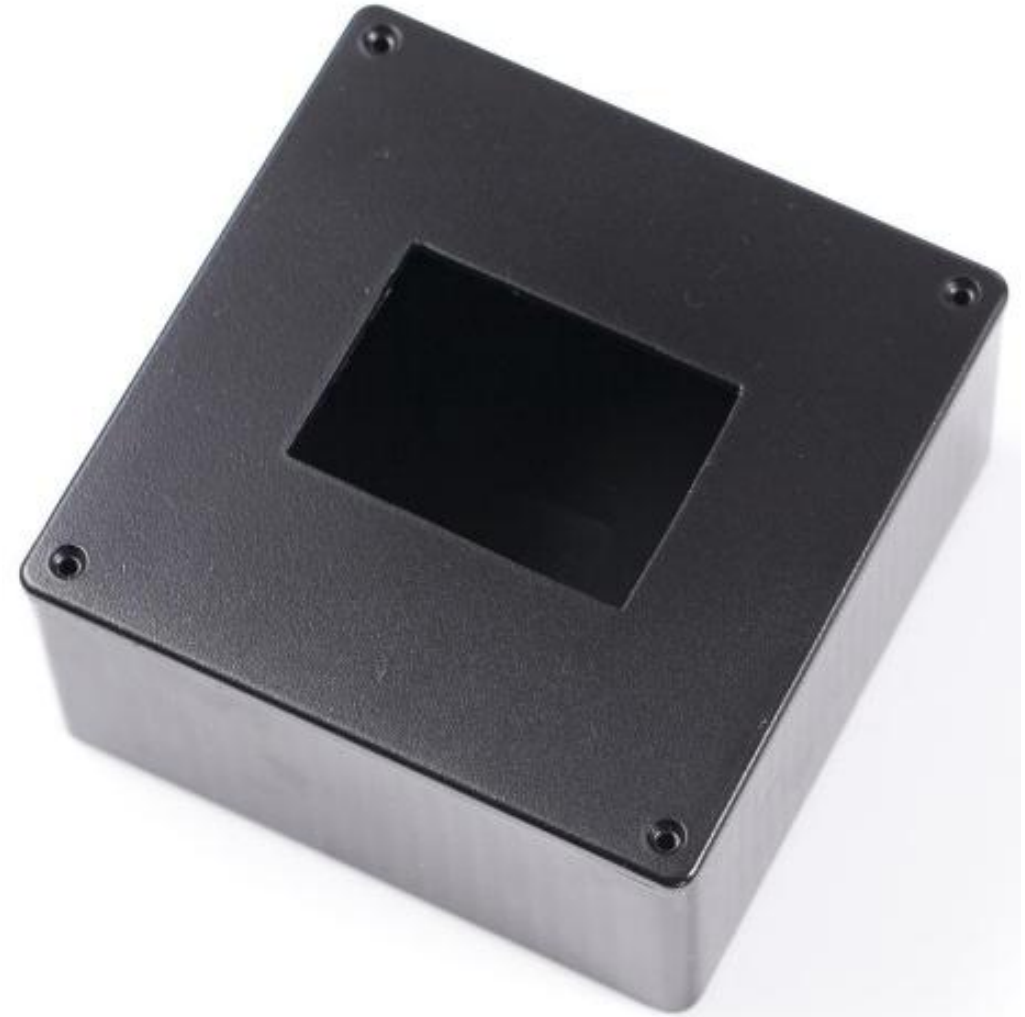

Figure 12-19. Hole for the screen
- Finish the hole with file and sandpaper (see Figure 12-19).